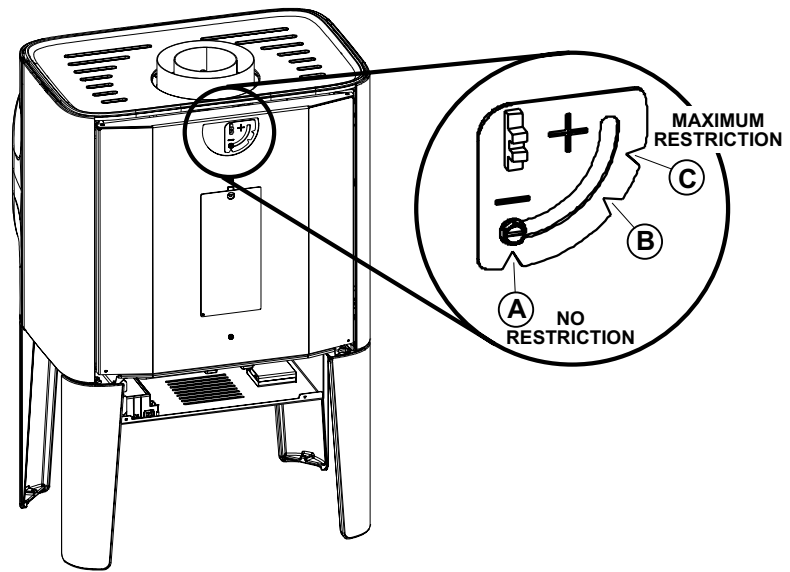
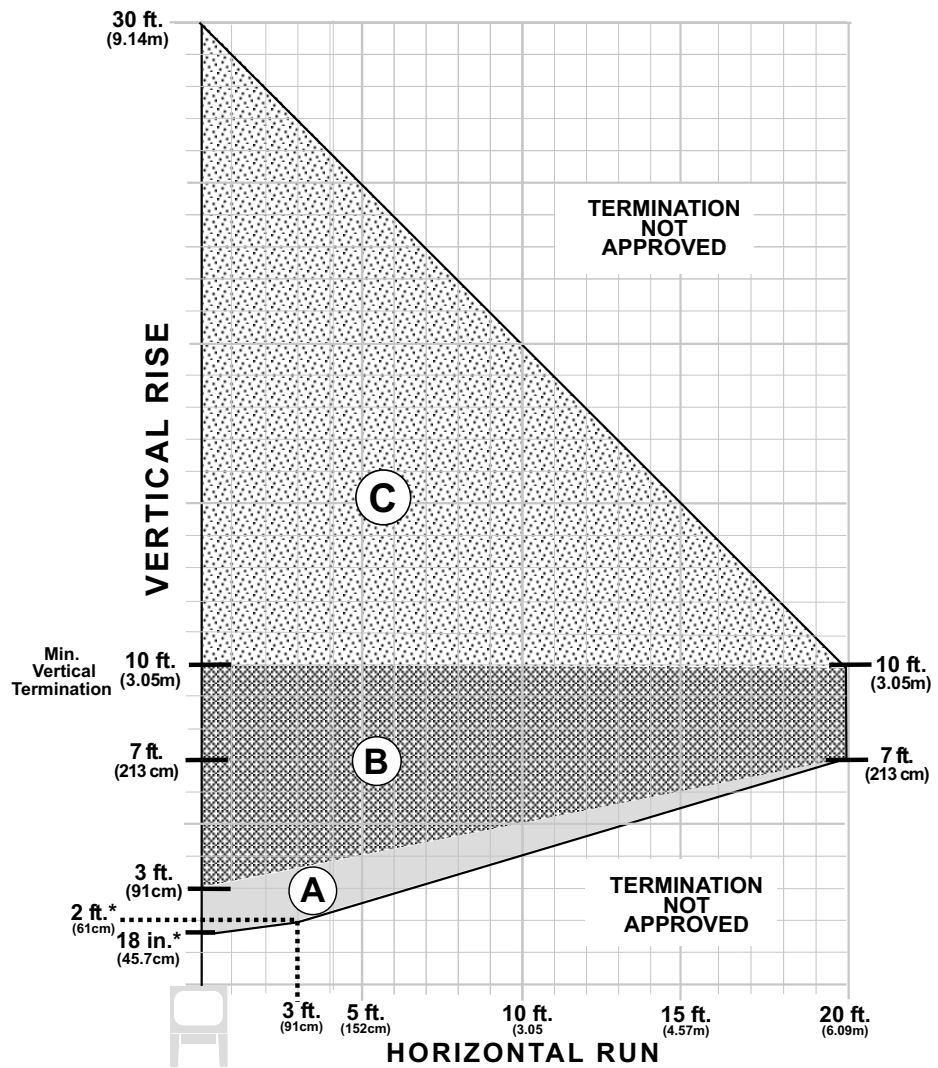

Figure 6.2.
Figure 6.3. Vent Termination Zone Matrix - NG / LP
The Exhaust Restrictor plate is located within the firebox exhaust outlet. It is adjusted by rotating the dial on the back of the stove within a range beginning at the factory-set, fully open position (no restriction) to a fully restricted position. See Fig. 6.2. The Minus (-) and Plus (+) signs on the dial relate to degrees of restriction, from zero to approximately 70%. The three, lettered positions correlate to the termination zones (A,B,C) diagrammed in figure 6.3. Use the diagram to determine the degree of restriction and shutter setting that correlates to your vent configuration.
- The termination should fall within the shaded areas of the grids depicted in the Vent Matrix, fig. 6.3, page 10.
- Any horizontal termination must fall within the shaded portion of the vent window matrix shown in fig. 6.3.
14" (356mm) or 36" (914mm) snorkel termination is approved in conformance with the vent specifications published in this manual. See figs. 6.3 and 6.6.